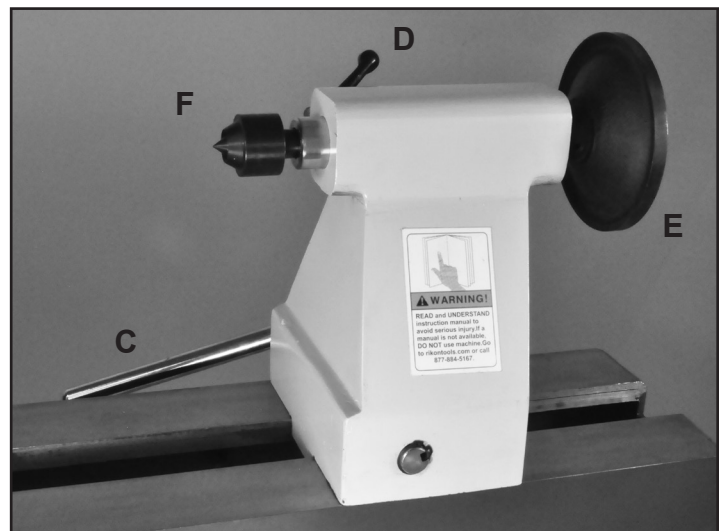

FIG. 9
13. **TAILSTOCK LOCK HANDLE:** (FIG. 9, C) Locks the tailstock in position along the length of the lathe bed. Unlock handle to position the tool rest to move the tailstock. Tighten handle when properly positioned.
14. **TAILSTOCK QUILL LOCK HANDLE:** (D) Secures the tailstock quill in position. Unlock the handle to move the quill, with live center, forward or backwards. Tighten the locking handle when the quill is finally positioned.
15. **TAILSTOCK QUILL HANDWHEEL:** (E) The hand-wheel advances or retracts the quill. The tailstock quill lock handle (D) must be loose to move the quill.
16. **TAILSTOCK LIVE CENTER:** (F) Used for turning between centers. The Live Center (#A11) and the Quill (#A12) have MT-2 tapers. Remove the live center by retracting the quill until the center loosens, or use the knockout bar.